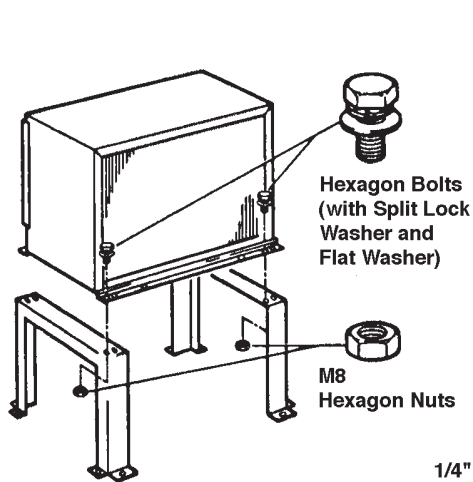

Fig. 5
1) Secure the legs to the condenser unit with eight M8 x 16 mm hexagon bolts and M8 nuts as shown in the illustration. See Fig. 5.